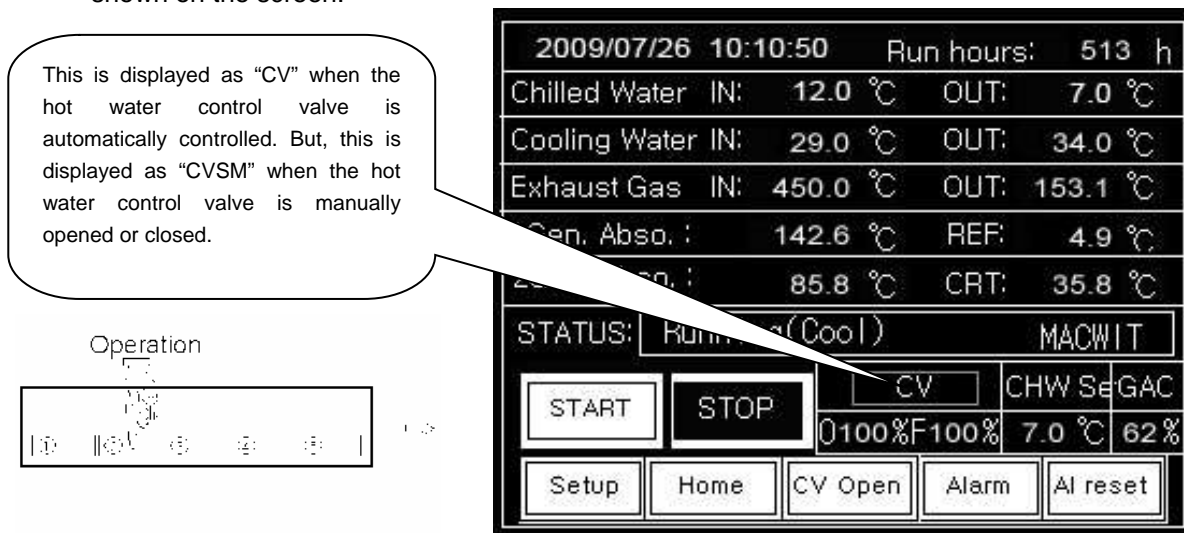

Fig. 5-4 Cooling Status Picture
If you touch ②「Operation」 button at the lower end of screen, then Chilled Water In/Out temperature in cooling status picture will be shown if you are correct. (See Fig.5-4)
One of them is displayed as Chilled W.Set in cooling status picture, which is shown if you touch ②「Operation」 button at the lower end of screen. (See Fig.5-4)
The cooling capacity of Absorption Machine is almost proportional to the opening rate of hot water control valve, and the machine performs automatic control of the valve to meet cooling load. The opening rate of the control valve is displayed in the screen of cooling status picture. (See Fig.5-4. "CV:xx%" stands for the current opening rate under automatic control, and "CVSM:xx%" stands for the current opening rate by manual input.) When you want to open or to close the valve manually, touch ③「CV Open」 button at the lower end of the screen, then, Control Valve Open Picture will be shown on the screen.